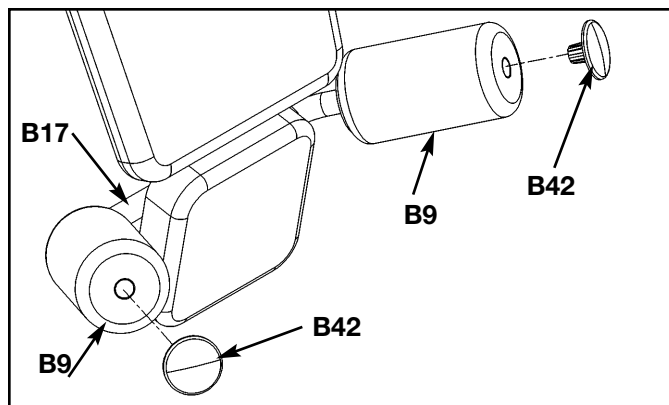

Figure 14
- G.** Using a rubber mallet, install plastic inserts (#B42) to secure round cushions (#B9) on hip support (#B17) as shown in Figure 14.